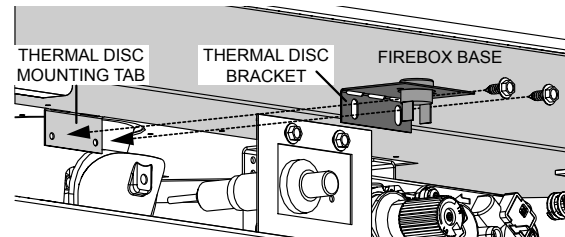

Fig. 4
11. For installation of the thermal disc bracket, bend the tab on the bottom of the firebox 90 degrees. This will be the mounting tab for the thermal disc bracket (**Fig. 4**).
12. Bend the thermal disc bracket 90 degrees and secure it to the firebox mounting tab using the two screws supplied (**Fig. 4**). Ensure that the thermal disc is in contact with the firebox base and that the wire harness is properly attached.